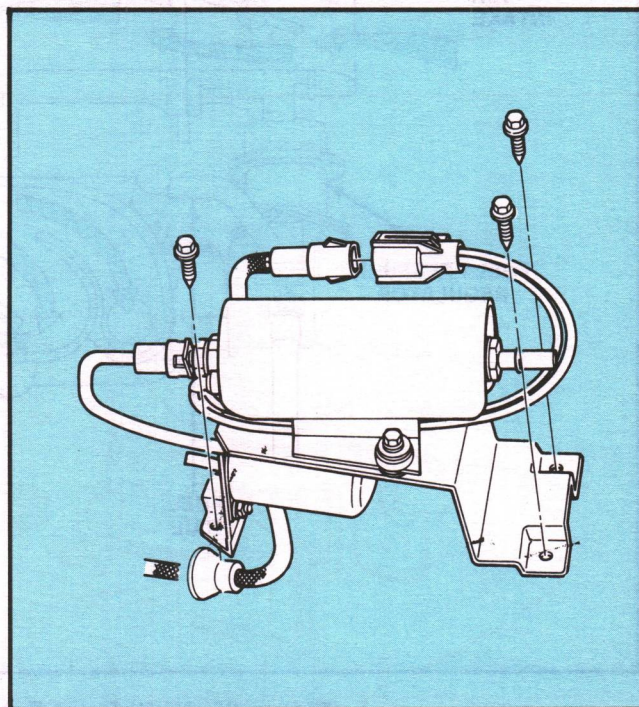

Figure 68. High-Pressure, In-Line Fuel Pump
- The low-pressure, in-tank/high-pressure, in-line system uses a low-pressure fuel pump located in the fuel tank (Fig. 68) to supply fuel to the externally mounted, high-pressure pump. The high-pressure pump supplies the fuel to the injectors.